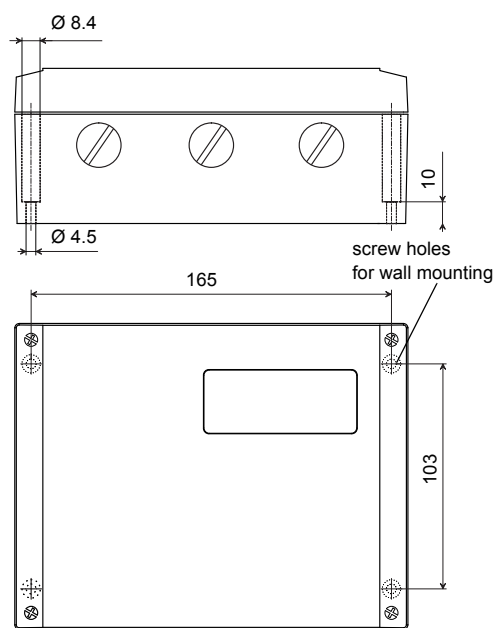

Fig. 6.2: FLUXUS WD100, WD200 (dimensions in mm)
- Fix the housing to the wall (see Fig. 6.2).